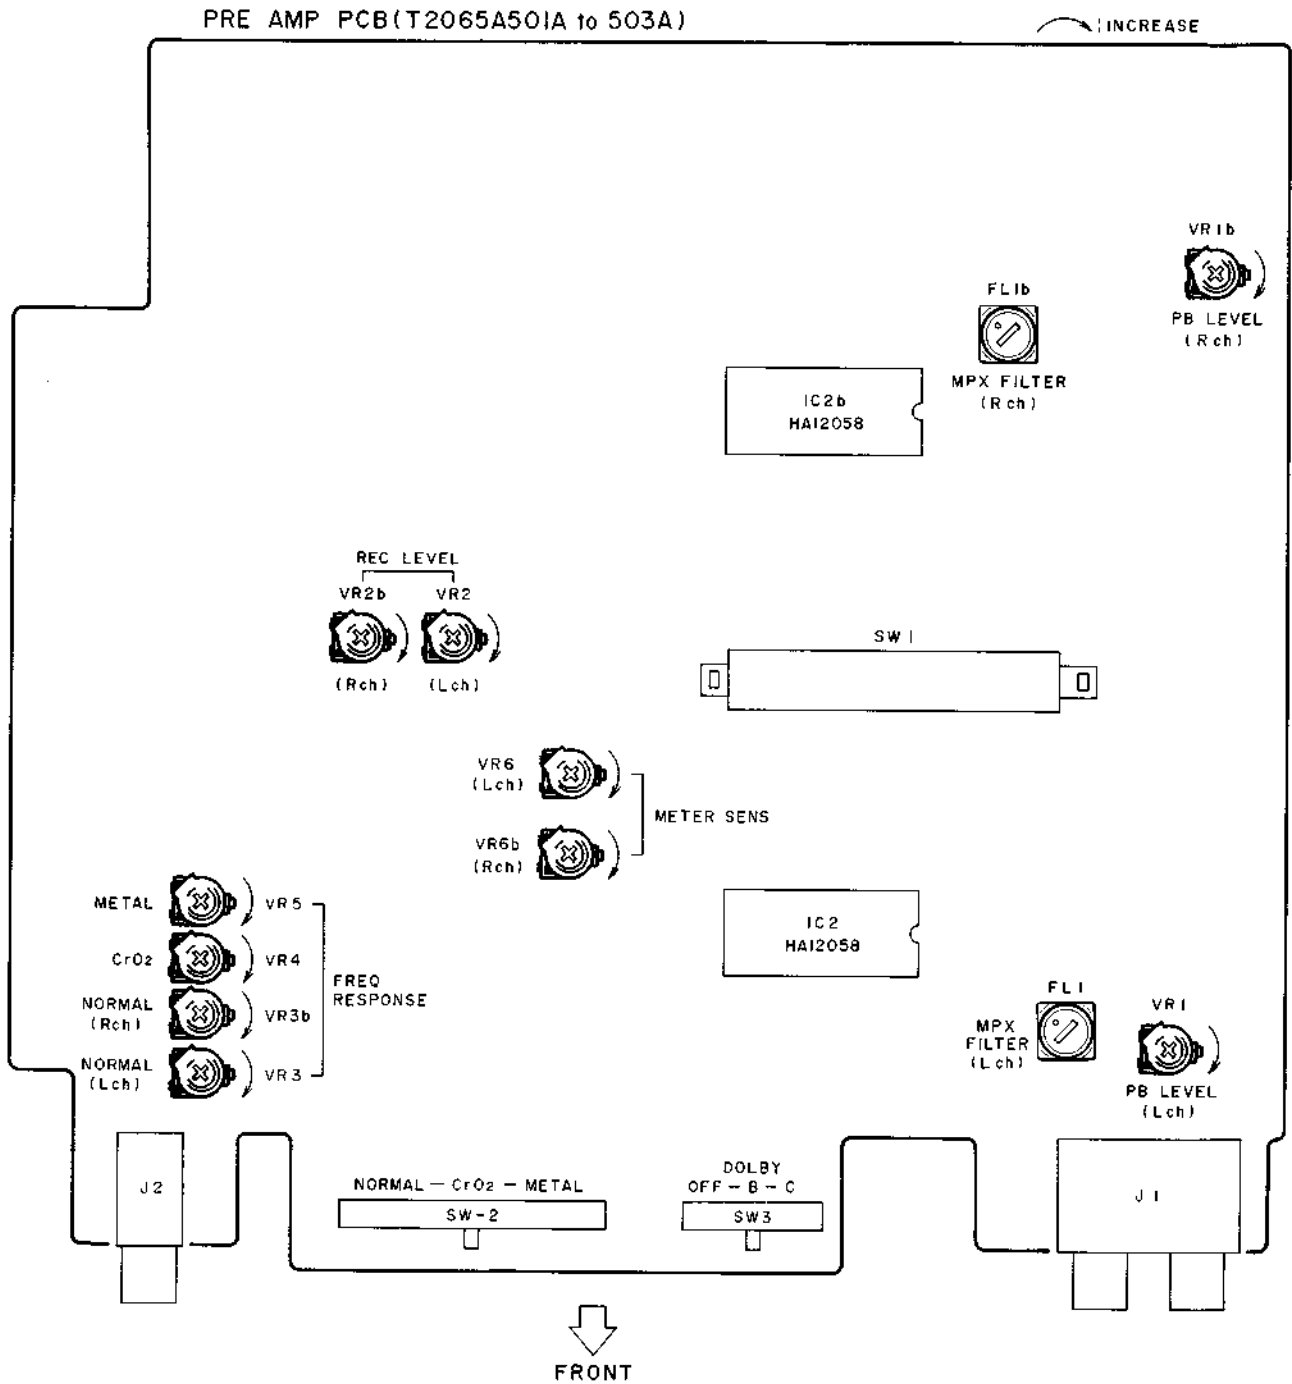

Fig. 6-1
- Refer to Fig. 6-1 for the adjustments.